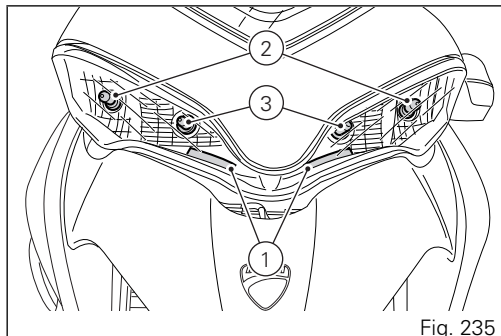

Fig. 235
(Fig. 235) shows the location of the LED parking lights (1), the LED low beams (2) and the high beam bulbs (3).